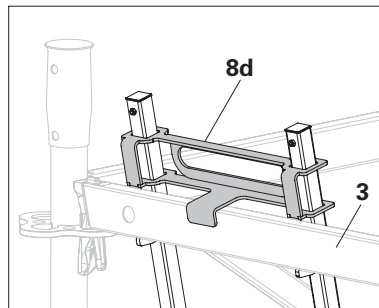

Fig. A1.15a
1. Release the yellow lug (8d) and hook it into the top horizontal ledger (3). (Fig. A1.15a)